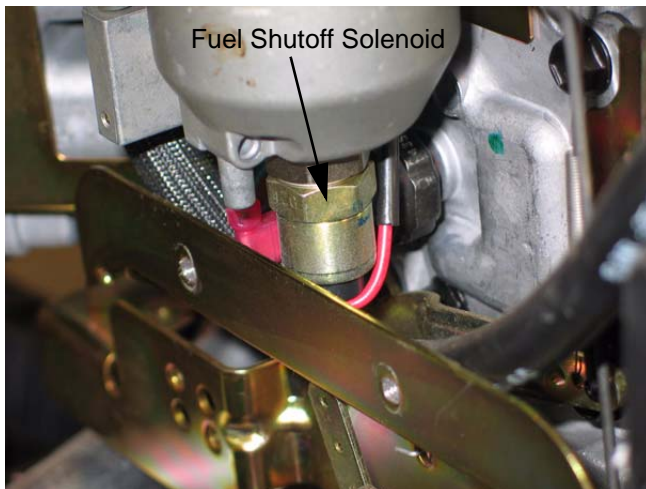

Figure 7.1
- 7.1. In all models of the 1000 and 1500 Series Cub Cadet riders, there is a fuel shut-off solenoid mounted to the carburetor. See Figure 7.1.